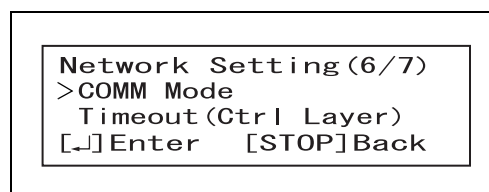

Figure 7.68
- 14** Select the communication mode by operating the ▲ and ▼ buttons and press the ENTER button. The communication mode is selected and the LCD returns to the screen immediately before the current screen. (See Figure 7.68)